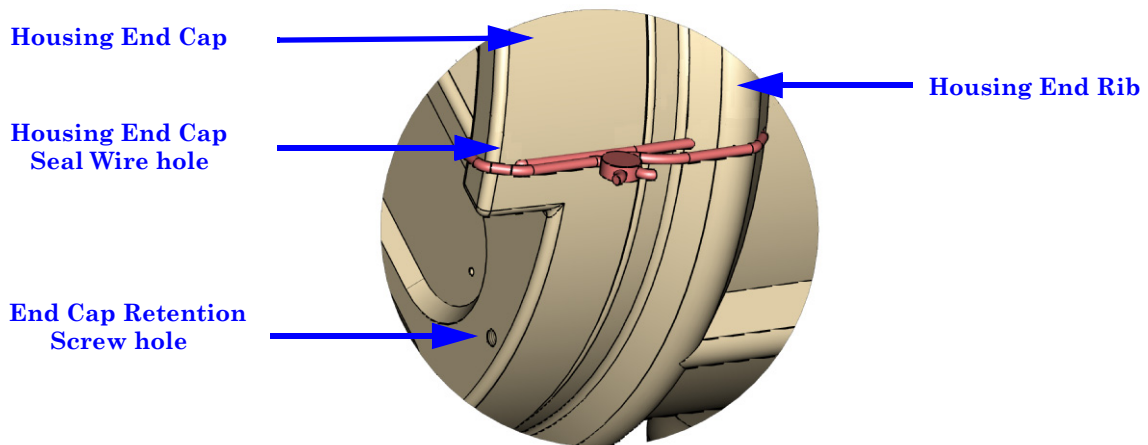

Figure 3-27 Upper Electronics End Cap Security Seals
3. Install the security seal wire into and through one of the two holes in the Housing End Rib and through one of the two holes of the outer edge of the Housing End Cap. Choose holes that minimize counter-clockwise rotation of the end cap when the security wire is taut (maximum wire diameter .078 inch; 2.0mm) (see Figure 3-27).